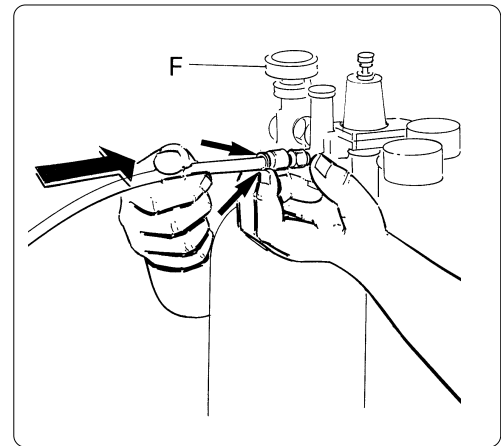

Fig. 5
- remove the rear panel (E) to release the hose (D) coiled up inside between the panel and the machine itself;
- connect one end of the hose (D) to the solenoid valves, fitted with quick couplings and located inside the machine.
- The other end of the hose (D) must be connected to the pressure reduction unit (C), as shown in fig. 5;
- remount the rear panel (E);
- open the valve (F) of the cylinder (D) to enable the CO₂ delivery, making sure the pressure indicated on the relative reduction unit gauge is at 0.5 bar.